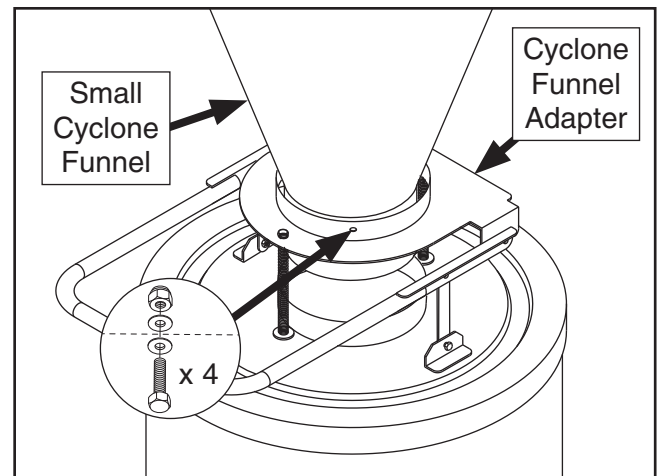

Figure 25. Cyclone funnel attached to adapter.
25. Align mounting holes of cyclone funnel and cyclone funnel adapter then attach with (4) $\frac{3}{8}$ "-16 x 1" hex bolts, (8) $\frac{3}{8}$ " thin flat washers, and (4) $\frac{3}{8}$ "-16 lock nuts (see **Figure 25**).